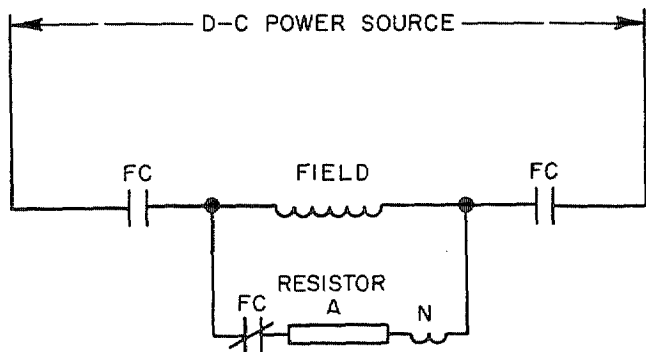

Fig. 4A.
**OPERATION SEE FIG. 4A, 4B AND 4C**
The normally open poles FC of this contactor are usually wired to a field in accordance with Fig. 4A so that they will apply and remove power from the field of the synchronous motor and also isolate the field from the d-c power source. The normally closed power pole FC interrupts the a-c induced power that flows in the field while the motor is accelerating and inserts the discharge resistor A when power is removed from the field. Resistor A, which is not supplied when the contactor is shipped alone to the purchaser, limits this a-c induced current and also limits the d-c field-discharge current which continues to flow after the normally open poles are again opened up when the contactor is de-energized. Resistance of resistor A must be supplied by the motor designer. N is a motor-protective device which also is not supplied with contactor shipments mentioned above.